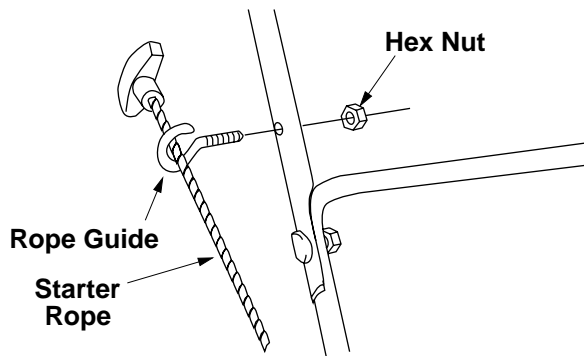

Figure 10
- Place the rope guide around the starter rope, so the opening in the rope guide is toward the front of the mower as shown. Insert the rope guide into the right side of the handle, and secure with hex lock nut. See Figure 10.